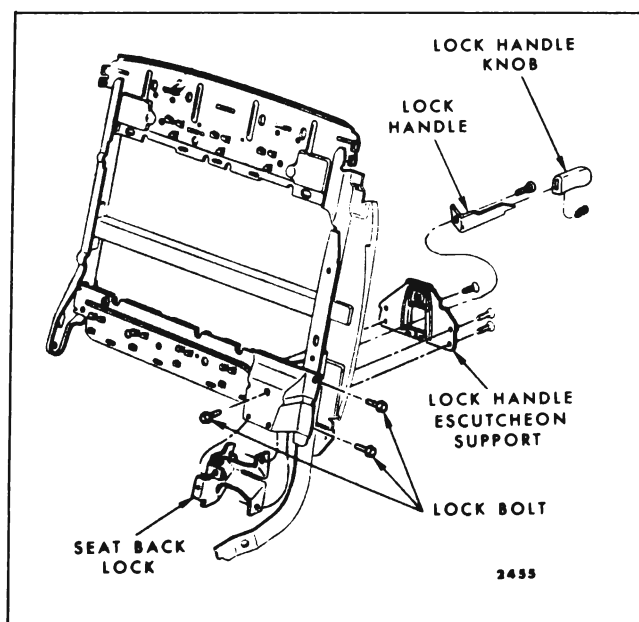

Fig. 15-19—Front Seat Back Lock - "A, B & X"
3. Remove seat back lock handle knob, lock handle escutcheon and lock handle (Fig. 15-19).
4. Remove hog rings securing seat back front and rear trim facings at bottom of seat back; then, turn up trim sufficiently to gain access to lock attaching bolts (Fig. 15-19).
5. Remove seat back lock attaching bolts (Fig. 15-19); then, remove lock assembly from bottom of seat back.